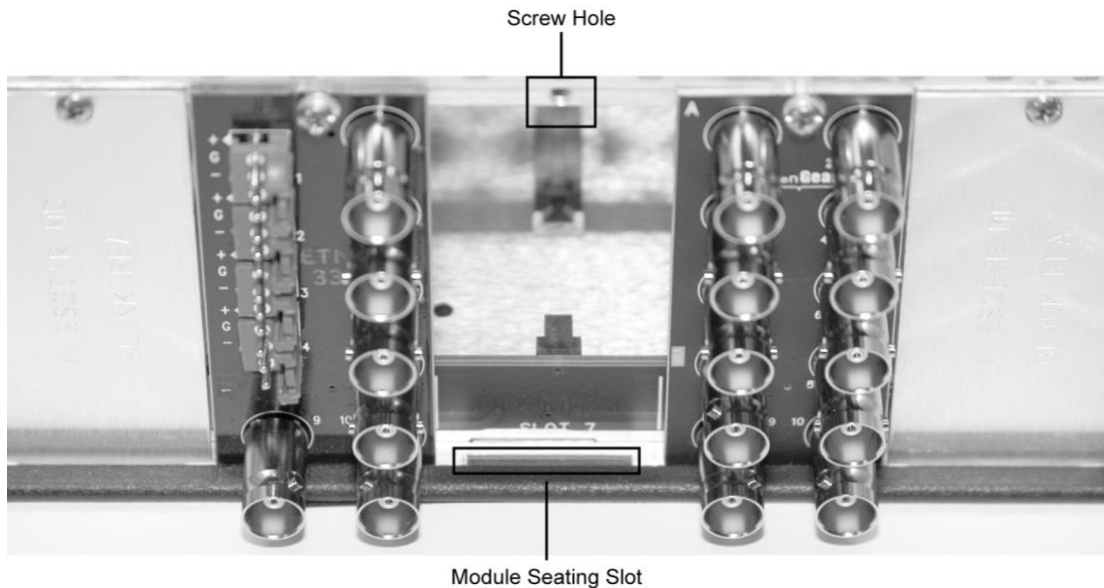

Figure 2.1 Rear Module Installation in a openGear series Frame (MDOG-6021-ADC-2AESU not shown)
3. Install the bottom of the Rear Module in the **Module Seating Slot** at the base of the frame’s back plane. (**Figure 2.1**)